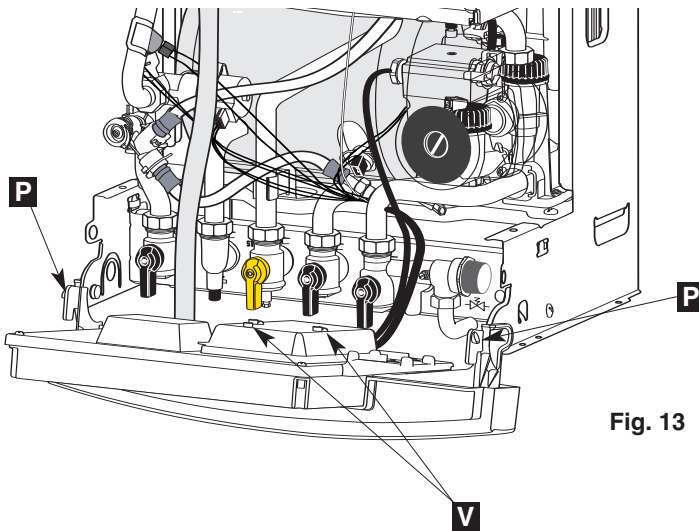
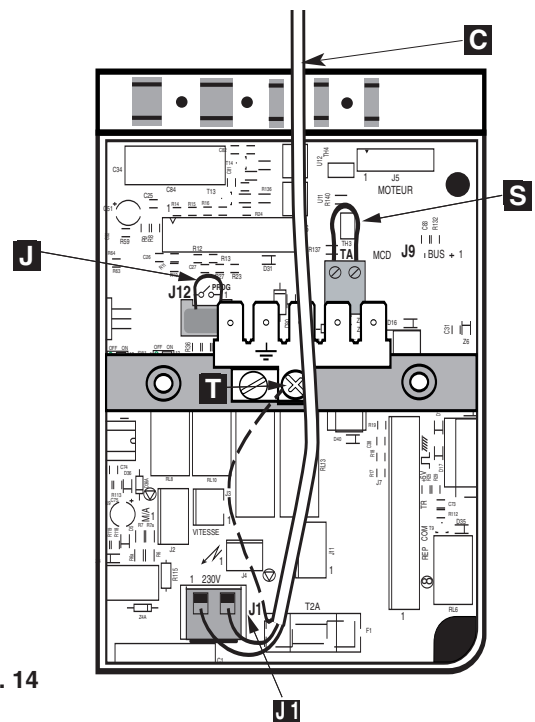

Fig. 13
Fig. 14
- Push in the tabs "**P**" (Fig. 13) on either side of the boiler and pivot the electrical box forward to gain access to the valve connections
Hinge down the electrical box to gain access to the electrical connections. Push in the tabs **P** (Fig. 13) on either side of the boiler and pivot the box forward. Undo the two retaining screws **V**, remove the cover and remove the cable clamp **C** (Fig. 14).
Connect the live and neutral wires to the multipin plug leaving sufficient earth wire to connect to the earthing point **T** (Fig. 14).
If using a room thermostat or other external control, they can be connected in place of the link **S** on the multipin plug (see Fig. 14).
Connect the multipin plug into the socket on the printed circuit board. Secure the cable using the cable clamp and replace the cover. **NB:** The room thermostat options setting can be made before replacing the electrical box cover **J1** (Fig. 14).